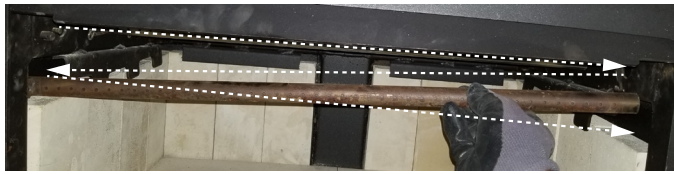

Figure 20 Front Air Tube Removal
2. Remove the air tube by sliding it into the space to the right, followed by sliding the tube left and partially forward, and finally remove the tube by sliding to the right and out of the firebox. Overall this pattern looks like the letter Z. See Figure 20.